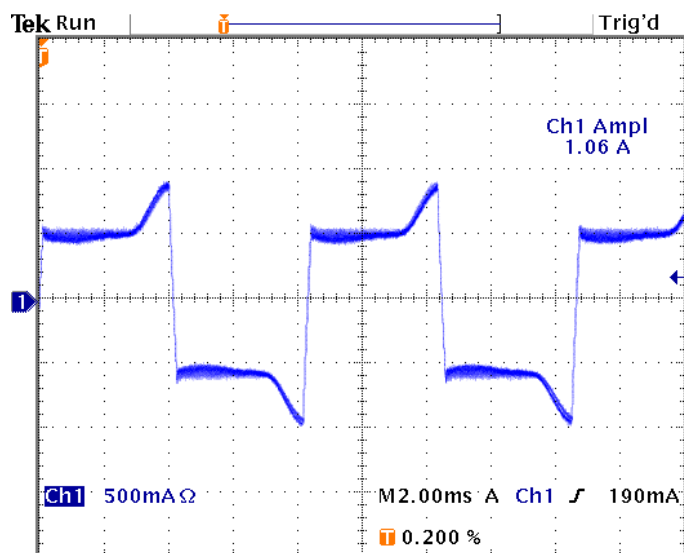
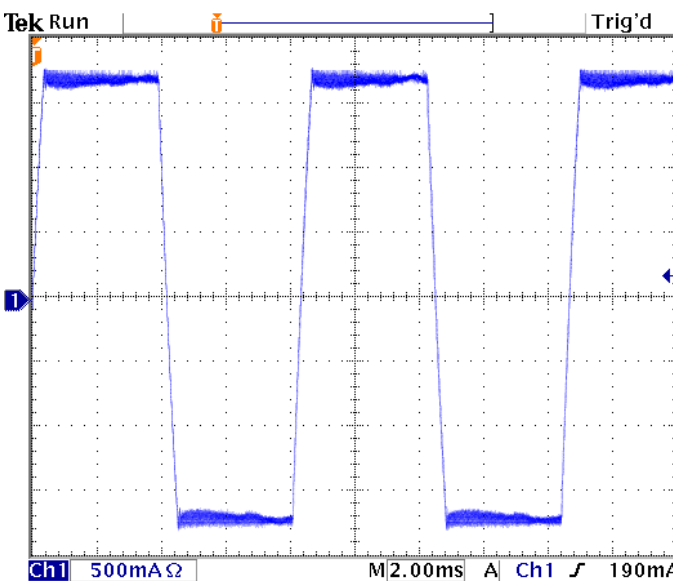

Figure 9: 0.5A/phase,  $T_j = 45^\circ\text{C}$
Figure 12: 1.7A/phase,  $T_j = 127^\circ\text{C}$
**Figure 9 to Figure 12: Full step mode, continuous spin with 144 rpm, 24V supply, slow decay**